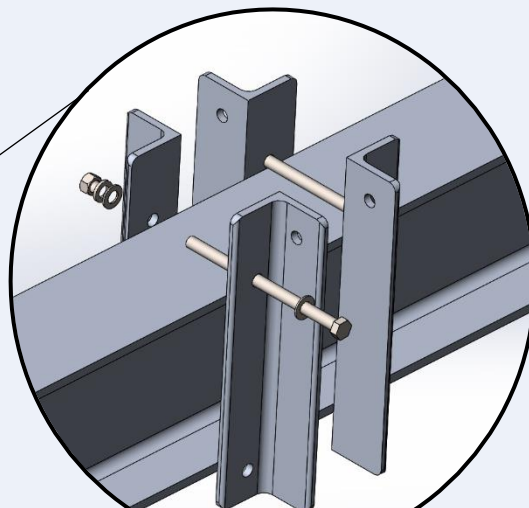

Figure 10
2. Position the four (4) brackets around the CRADLE, making sure the side(s) with one (1) hole are oriented upward and running parallel to the cradle; the sides with two (2) holes should be running across the top and bottom the CRADLE as shown in figure 10. Repeat for the other three sets of brackets.
3. Slip one (1) Washer over one (1) 3/8" X 5-1/2" Hex Bolt and insert it into the top hole on the bracket side with two (2) holes. Repeat seven (7) times for other bracket sets.
4. Slip one (1) 3/8" Washer, one (1) 3/8" Lock Washer, and one (1) 3/8" Hex Nuts onto the protruding end of the bolt and hand tighten; repeat for the remaining seven (7) bolts.